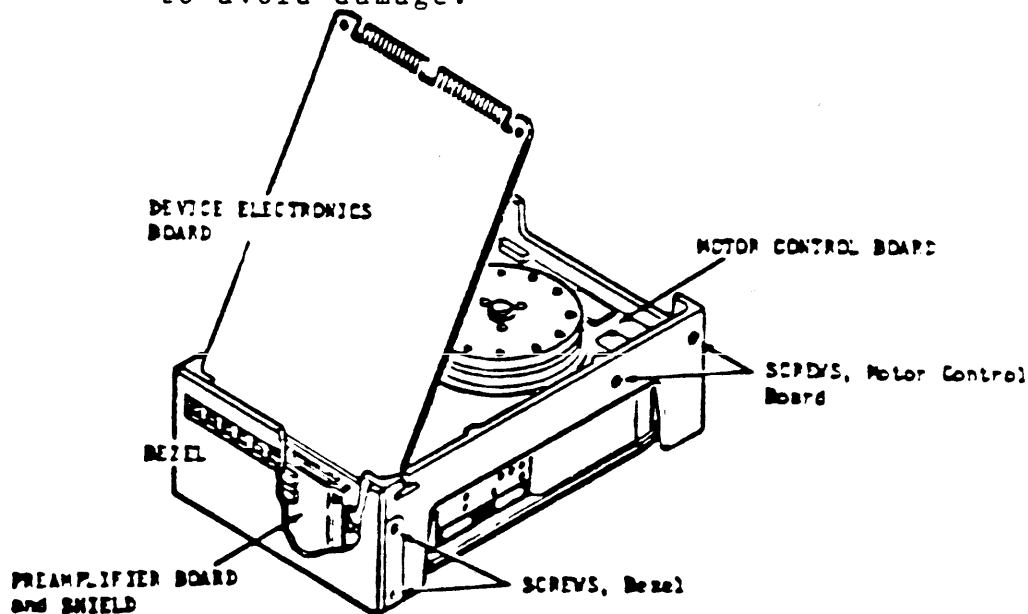

Figure 8-16 RD53 Device Electronics Board Removal
1. Remove the four phillips screws retaining the slide plate and ground clip. Set the plate aside (figure 8-16).